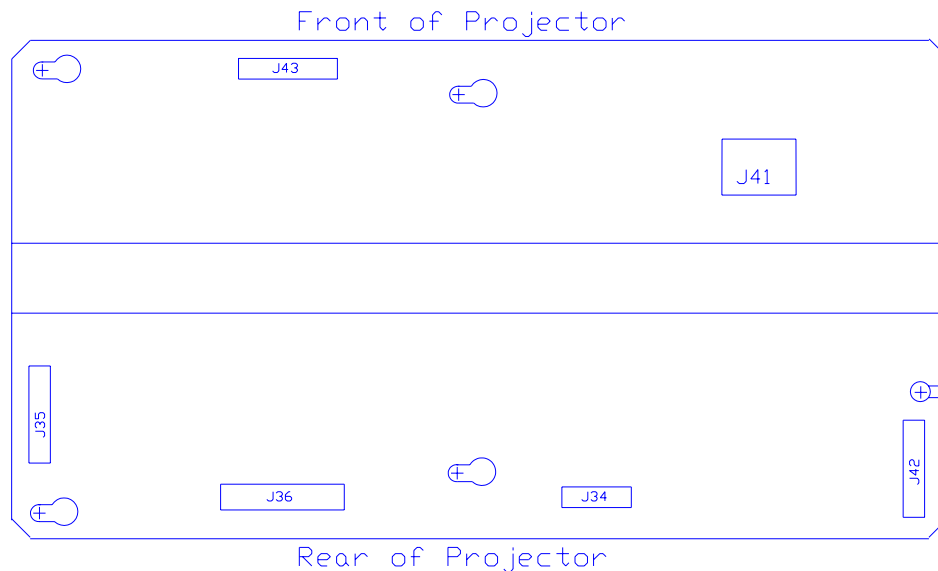

Figure 4-8. Horizontal/Vertical Deflection PCB.
2. Disconnect 6 connectors; J34, J35, J36, J41, J42, and J43. (see Figure 4-8). Move the cables out of the way.